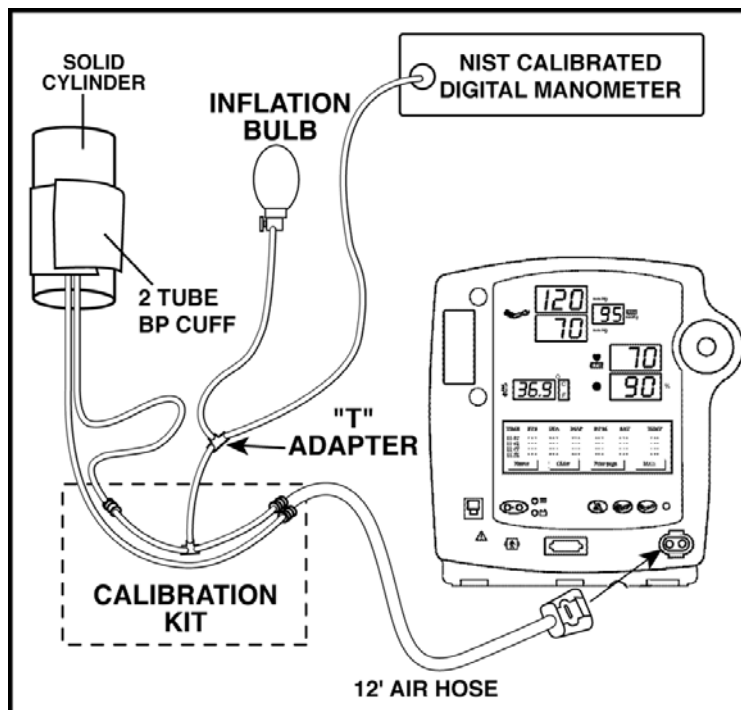

Figure 4-1
1. Secure the Adult-size cuff to the 12-foot air hose. Attach to the PRO Monitor as shown in Figure 4-1. Secure the BP cuff around a rigid, unbreakable object that measures at least 2 inches in diameter.